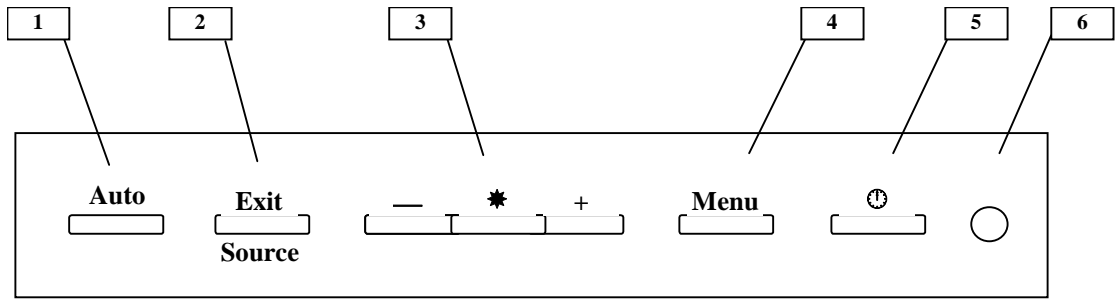

Figure 51 : SAMSUNG LCD213T Control panel
The control panel of the SAMSUNG LCD213T colour monitor control panel includes (See Figure 51) :
- If the screen is black, check the contrast and brightness controls. Refer to the description of the control panel on Figure 51.